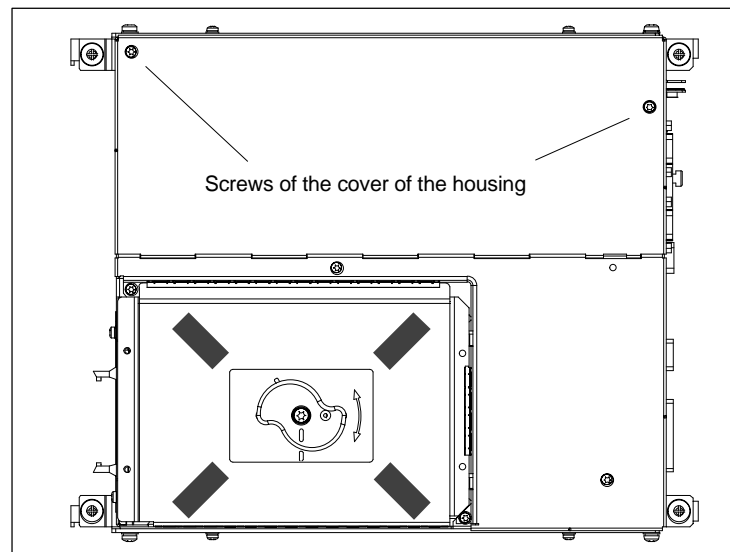

Fig. 2-11 Cover of the housing of the PCU 50
3. Remove the screws from the cover of the housing (Fig. 2-11) and open the housing of your PC, observing the relevant safety regulations.